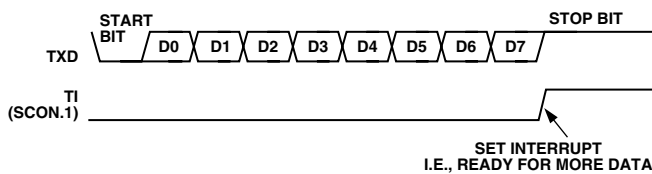

Figure 33. UART Serial Port Transmission, Mode 0
Transmission is initiated by writing to SBUF. The “write to SBUF” signal also loads a 1 (stop bit) into the ninth bit position of the transmit shift register. The data is output bit by bit until the stop bit appears on TXD and the transmit interrupt flag (TI) is automatically set as shown in Figure 33.